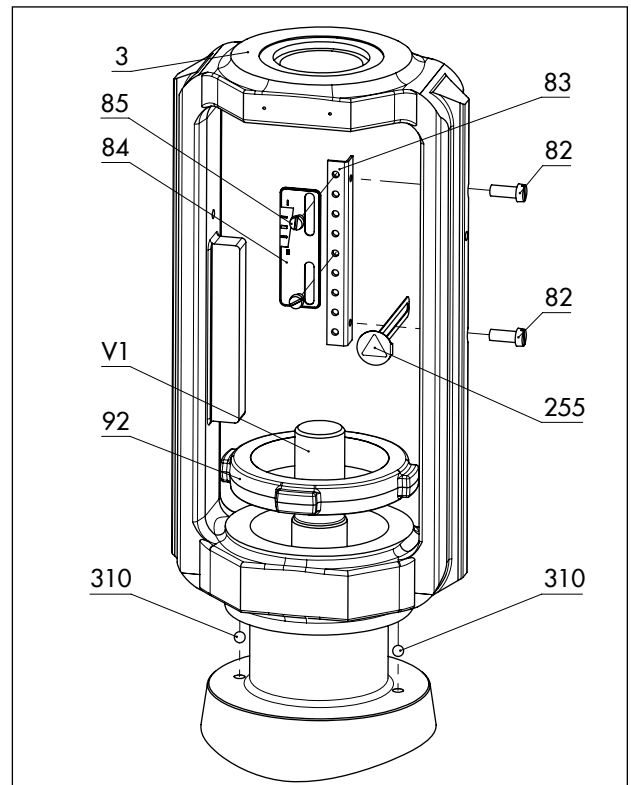
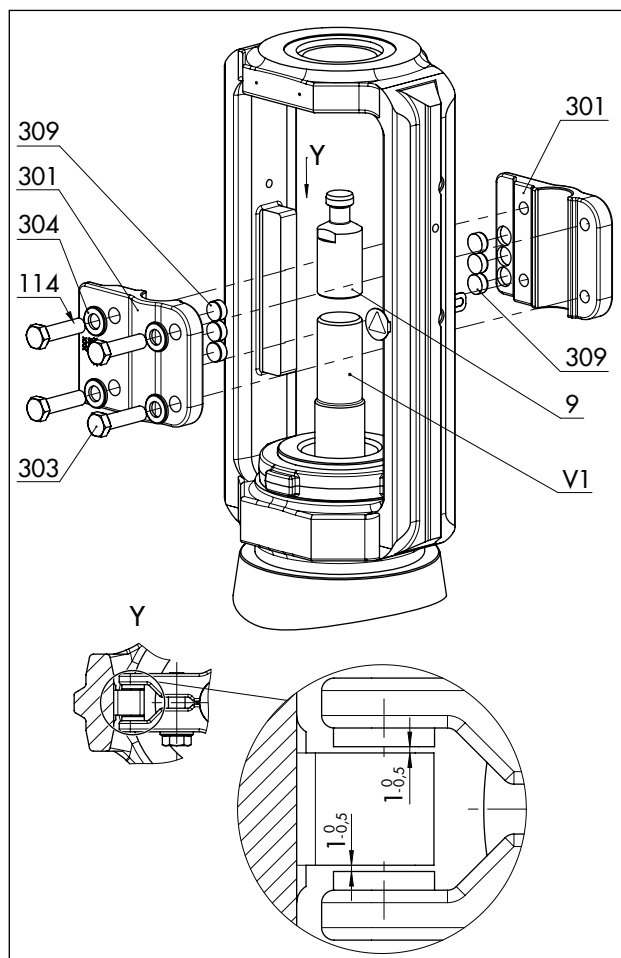

Fig. 20: Overview of yoke assembly with travel indicator scale in the standard version
Fig. 21: Overview of anti-rotation fixture assembly in the standard version
See Fig. 20 and Fig. 21
- There is a nominal clearance of 0.5 to 1 mm between the sliding washers and their contact surface on the yoke on each side (see detailed view Y in Fig. 21).